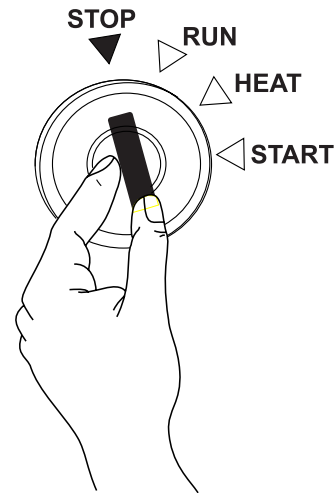

Figure 36. Starter Switch (Stop Position)
5. Place the starter switch key (Figure 36) in the **STOP** position and remove the key.